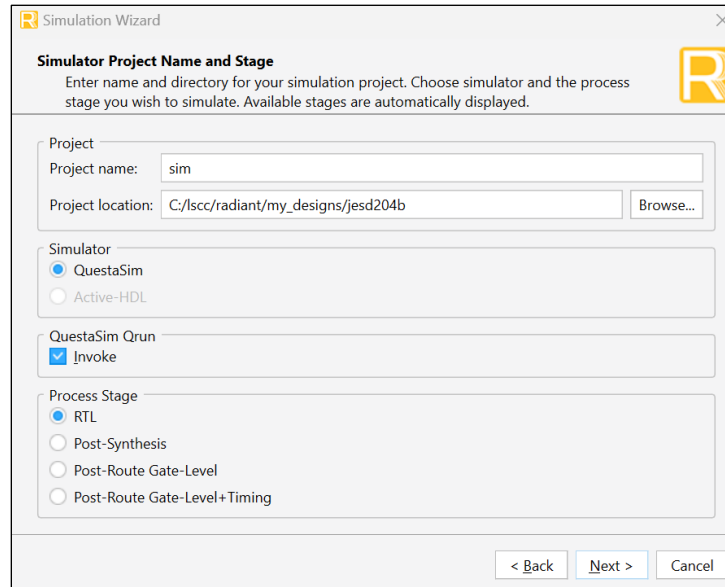

Figure 7.4. Simulation Wizard
- Click the  button located on the **Toolbar** to initiate the **Simulation Wizard** shown in Figure 7.4.